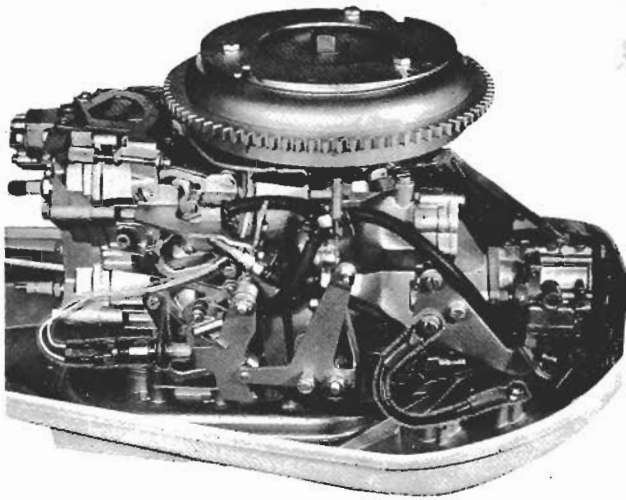

FIGURE 5
1. Install the gear shift interlock switch assembly to the rear screw holes in the lower transfer port cover with the plunger of the switch pointing forward. Use two (2) 1/4-20 x 5/8 hex slotted head screws furnished with kit. SEE FIG. 5.
2. Assemble the two interlock switch cable lead wires to the interlock switch. SEE FIG. 5.
3. Dress the interlock switch lead wire forward and upward across the lower portion of the upper transfer port cover on the starboard side of the engine. SEE FIG. 5.
4. Assemble one (1) cable clamp under lower front screw of the upper transfer port cover. Leave a 2" loop between the interlock switch and clamp, as shown in Fig. 5.
1. Assemble one end of the ground strap to the lower screw attaching the gear shift conduit bracket to the crankcase cover, as shown in Fig. 5.
2. Assemble the other end of the ground strap to the support plate using one (1) 1/4-20 x 1/2" nylok hex slotted head screw w/type "A" external tooth lockwasher as shown in Fig. 5.